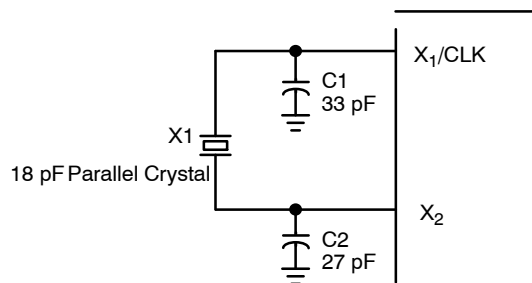

Figure 7. Crystal Input Interface
- The crystal should be fundamental mode, parallel resonant. Do not use third overtone. For exact tuning when using a crystal, capacitors should be connected from pins X1 to ground and X2 to ground. The value of these capacitors is given by the following equation, where CL is the specified crystal load capacitance: Crystal caps (pF) =  $(CL - 5) \times 2$ . So, for a crystal with 16 pF load capacitance, use two 22 pF caps, including board trace capacitance (see Figure 7).